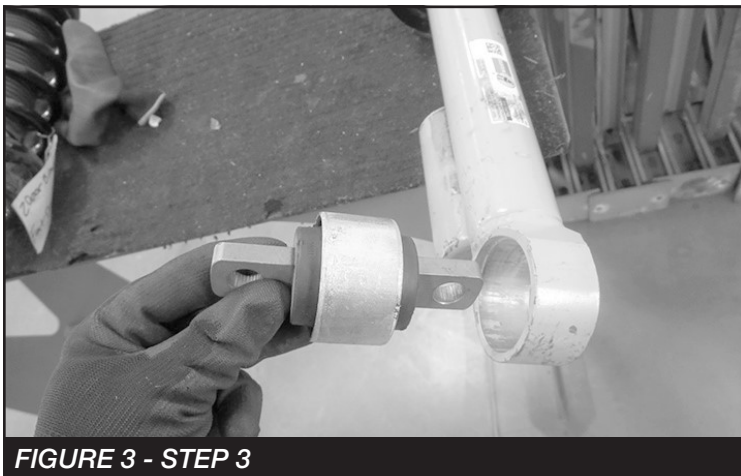

FIGURE 3 - STEP 3
3. Using a press, remove the factory bushing/bar pin from the lower strut assembly. **SEE FIGURE 3**